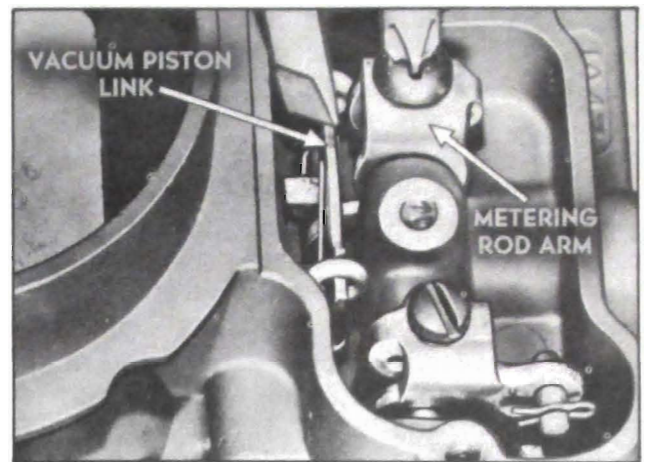

Figure 3-39—Adjusting Metering Rods
18. To adjust metering rods, fully close throttle valves and press down on vacuum piston link until metering rods bottom. While holding rods down and metering arm tongue against lip of vacuum piston link, carefully tighten metering arm set screw. See figure 3-39.